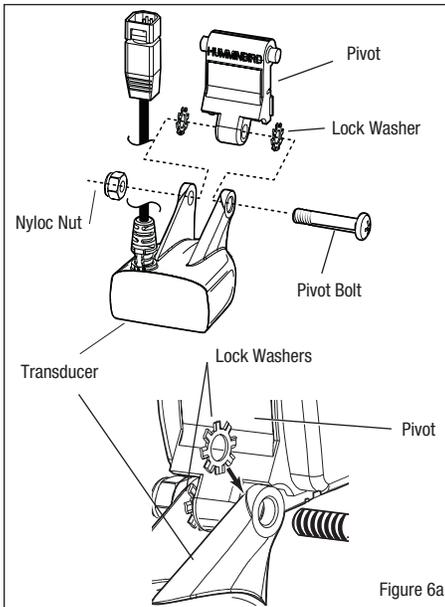

Figure 6a
- Attach the Pivot to the transducer body, as shown in Figure 6a or 6b, depending on your transducer type, using the #8 - 3/8" (9 mm) long Phillips headed pivot screw, nyloc nut, and the two toothed lock washers OR the #8 - 3/8" (9 mm) long Allen headed pivot screw, headed pin, two flat washers, and the two toothed lock washers. The toothed lock washers must be positioned between the transducer pivot ears and the bracket pivot tongue.